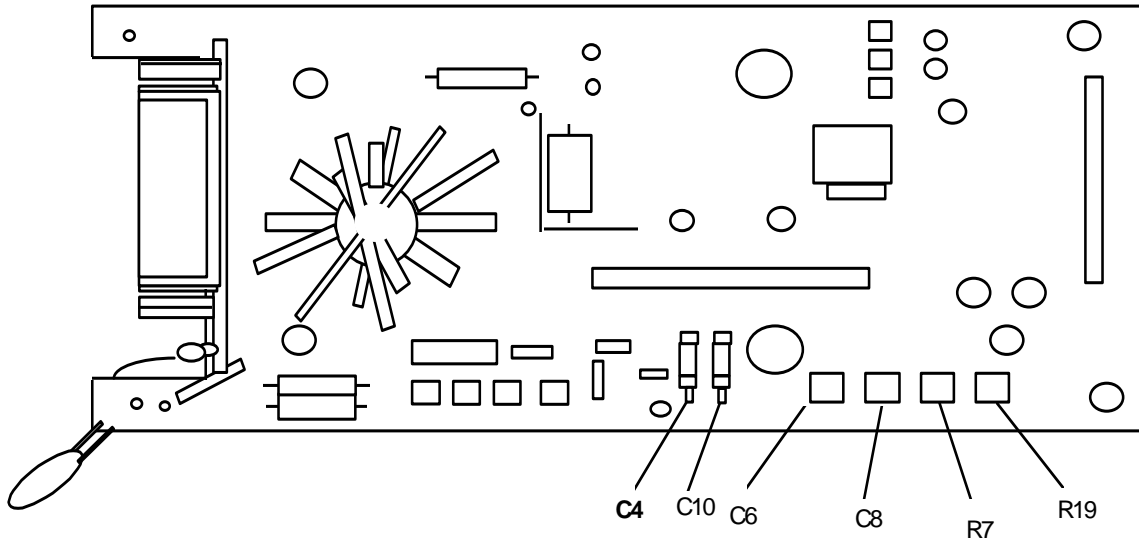

Figure 1. Adjustment locations.
(1) Set function switch to dc V.
(2) Set calibrator for a 3 V dc output.
(3) Press **RANGE** pushbutton for 3 V range.
(4) Adjust R19 (fig. 1) until TI indicates 3.000 V dc (R).
- (1) Set function switch to ac V.
- (2) Set calibrator for a 3 V, 100 Hz output.
- (3) Press **RANGE** pushbutton for 3 V range.
- (4) Adjust R7 (fig. 1) for a 3.000 V ac  $\pm 0.001$  V ac TI indication (R).
- (5) Press **RANGE** pushbutton for 300 V range.
- (6) Set calibrator for a 300 V, 5 kHz output.
- (7) Adjust C4 (fig. 1) for a 300.0 V ac  $\pm 0.1$  V ac TI indication (R).
- (8) Press **RANGE** pushbutton for 1000 V range.
- (9) Set calibrator for a 1000 V, 5 kHz output.
- (10) Adjust C10 (fig. 1) for a 1000 V ac  $\pm 1$  V ac TI indication (R).
- (11) Set calibrator for a 30 V, 5 kHz output.
- (12) Press **RANGE** pushbutton for 30 V range.
- (13) Adjust C8 (fig. 1) for a 30.00 V ac  $\pm 0.01$  V ac TI indication (R).
- (14) Set calibrator for a 3 V, 5 kHz output.
- (15) Press **RANGE** pushbutton for 3 V range.
- (16) Adjust C6 (fig. 1) for a 3.000 V ac  $\pm 0.001$  V ac TI indication (R).
- (17) Set calibrator for a 3 V, 100 Hz output. If TI does not indicate between 2.980 and 3.020 V ac, repeat (4) through (16) above as necessary.